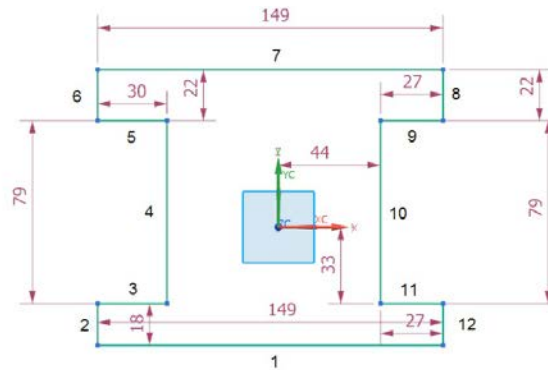

Figure 3-49 The outer loop of the profile and the sequence in which lines have to be drawn
- Draw the outer profile of the sketch using the **Profile** tool, refer to Figure 3-49.
2. Draw the sketch around the origin following the sequence shown in Figure 3-49. The sketch is unsymmetrical at this stage. But after adding the Sketch constraints and modifying the dimensions, it will become symmetrical. You can use the help lines to draw the sketch. For your reference, the sequence in which the lines are needed to be drawn in the sketch are
The dimensions shown in Figure 3-49 get automatically applied when sketch is drawn. However, those dimensions are not driving dimensions. They will change when you drag or move a sketched entity. In order to make them driving dimensions, you need to modify them. You will learn to modify these dimensions later in this tutorial.